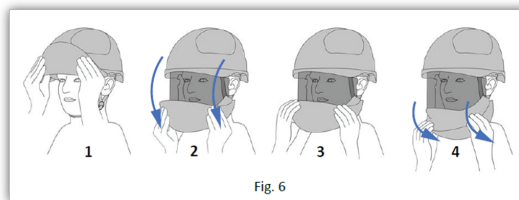

Fig. 6
1. In order to lower the face shield (Fig.6), gently grasp it with both hands, with thumbs on the inside (1), pull it down (2), until it fully extends (3), and then turn the chin cover by pulling it towards you (4), until you hear a click of the hinges of the chin cover.